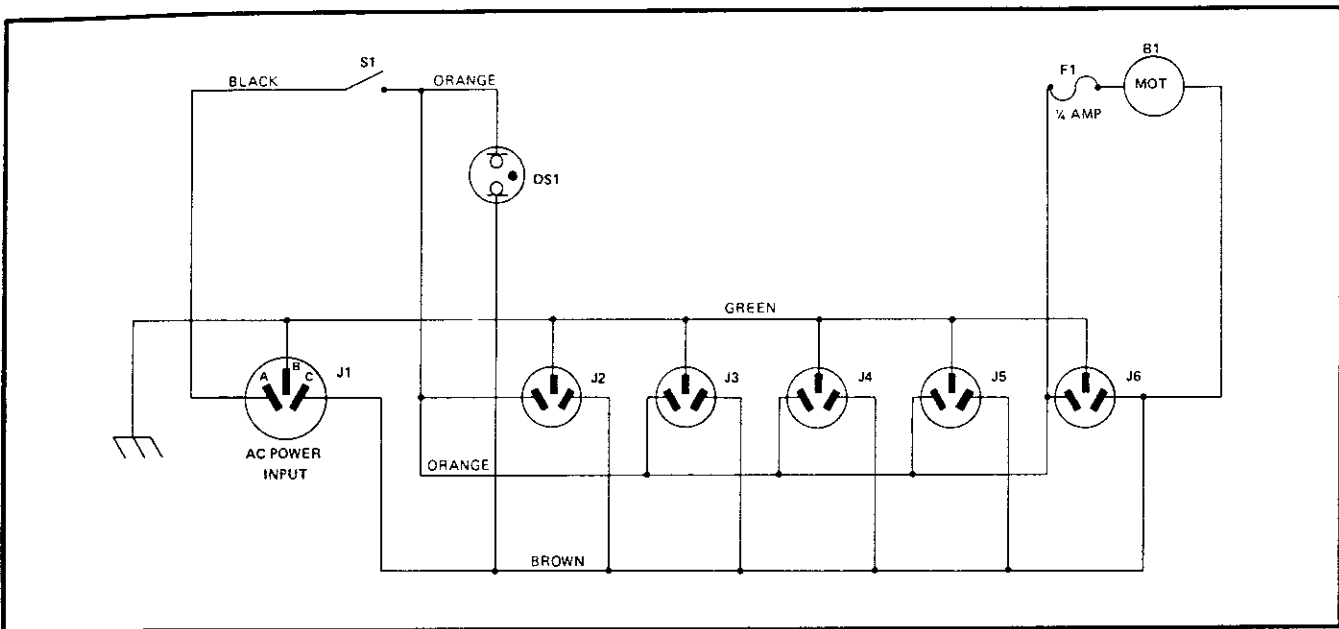

Figure 3-10. SYSTEM 115V AC POWER WIRING
3-37. **FUSES, LAMPS AND BATTERIES.** A list of fuses, lamps, and batteries in the system is contained in Figure 3-9. Refer to the appropriate Instruction Manual located in Section IV for replacement procedures. Figure 3-10 is a diagram of system ac power.
- a. The REF DESIG column indexes the item description to the parts shown on the ac power wiring diagram, Figure 3-10.